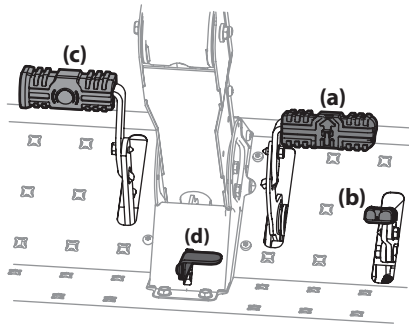

Figure 13
2. To travel FORWARD, slowly press the forward drive pedal (a) forward until the desired speed is achieved. See Figure 13.
3. To stop or slow down the mower, take your foot off of the forward (a) or reverse drive pedal (b). To lock the park brake, press forward on the brake pedal (c), press down on the park brake/cruise control lever (d) and then release the brake pedal (c). See Figure 13.
4. To use the cruise control (see Figure 13):
5. To release the cruise control, press the brake (c) or the forward drive pedal (a). See Figure 13.
NOTE: The forward drive pedal (a) and reverse drive pedal (b) must not be used when the brake is partially engaged. See Figure 13. When the brake is locked the drive belt is disengaged but if the brake is only part way back then the brakes are engaged, but so is the drive belt, so transmission damage will occur if you push forward or reverse.
6. To travel in reverse, check that the area behind is clear then slowly push down on the reverse drive pedal (b) with the ball of your foot (NOT your heel) until the desired speed is achieved. See Figure 13.